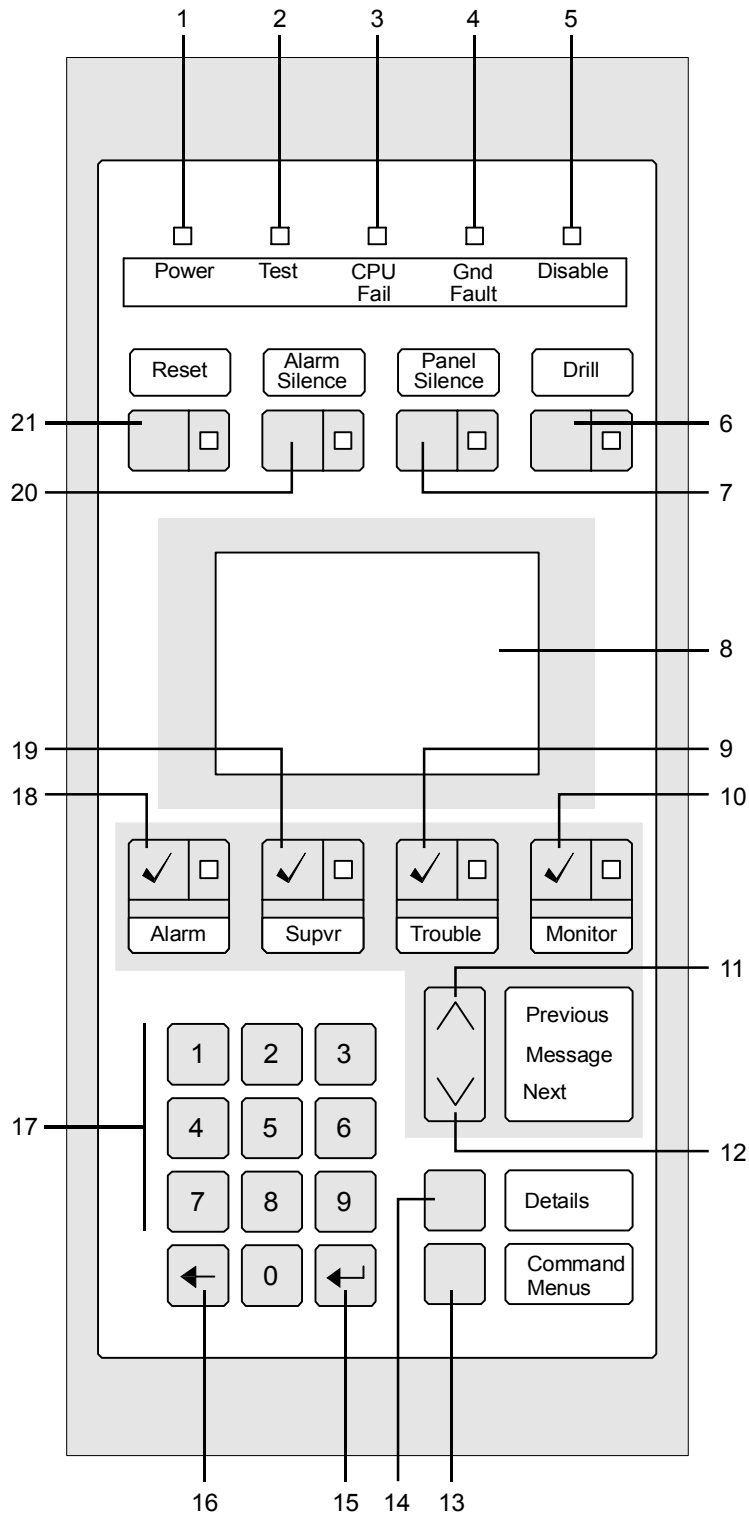
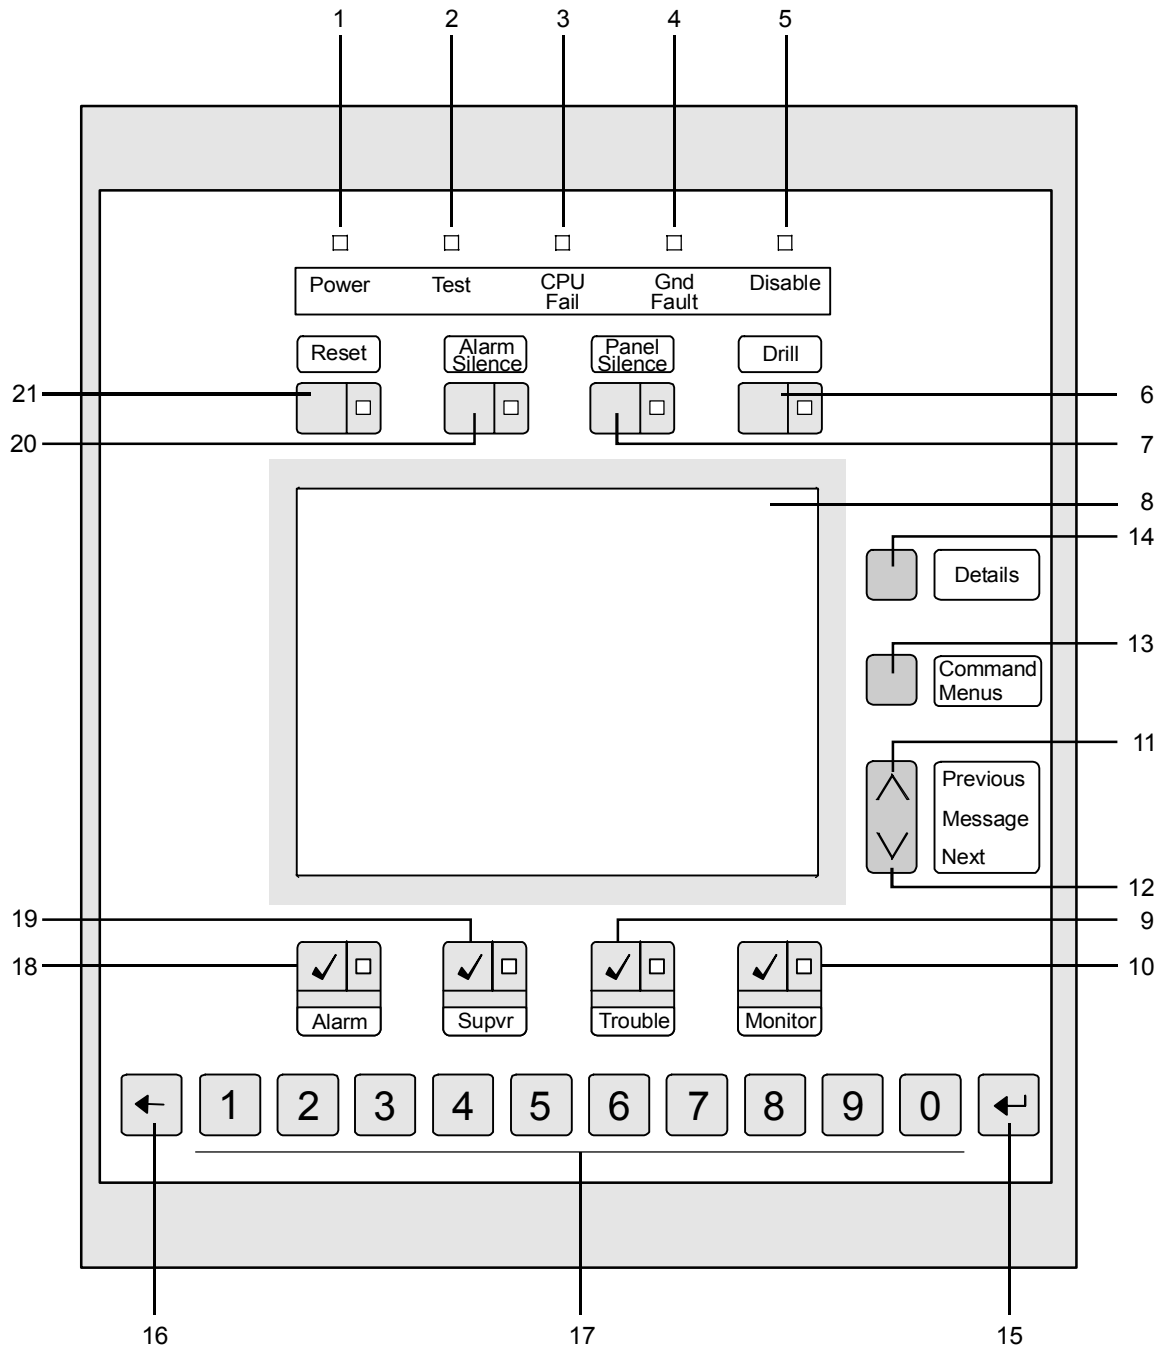

Figure 2-1: 3-LCD controls and indicators
Figure 2-2: 3-LCDXL1 controls and indicators
**3-LCD and 3-LCDXL1 controls and indicators (see Figure 2-1 and Figure 2-2)**